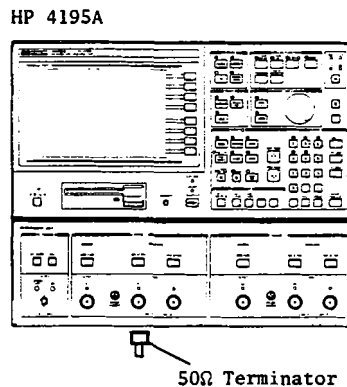

Figure 2-9. Residual Response Test Setup
2. Connect the 50 Ω Termination to HP 4195A **INPUT R1**, as shown in Figure 2-9.